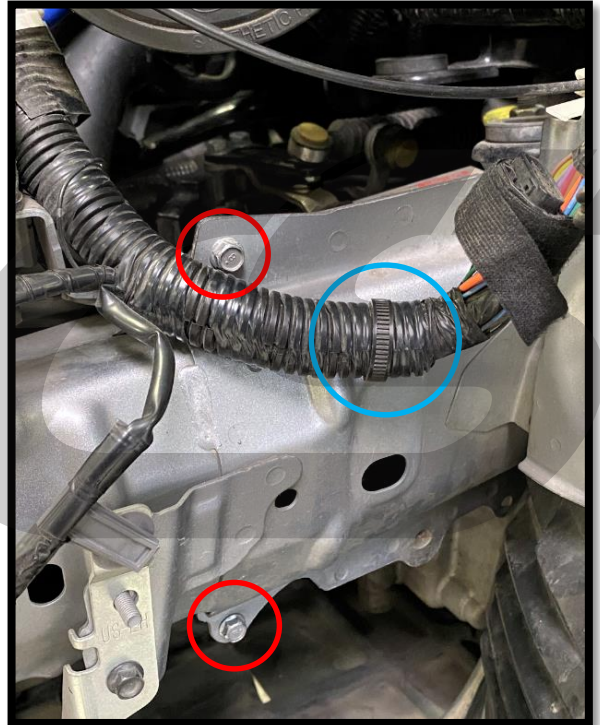

Figure 4a
NOTE If you have an OCC mounting in the location shown in Figure 4a, you will need to relocate it at this time.
- Remove two 10mm bolts from the frame rail. Shown **circled in red** in **Figure 4a**.
- Unclip the wiring harness from its mounting point on the frame rail. Location of wiring harness clip **circled in blue** in **Figure 4a**.